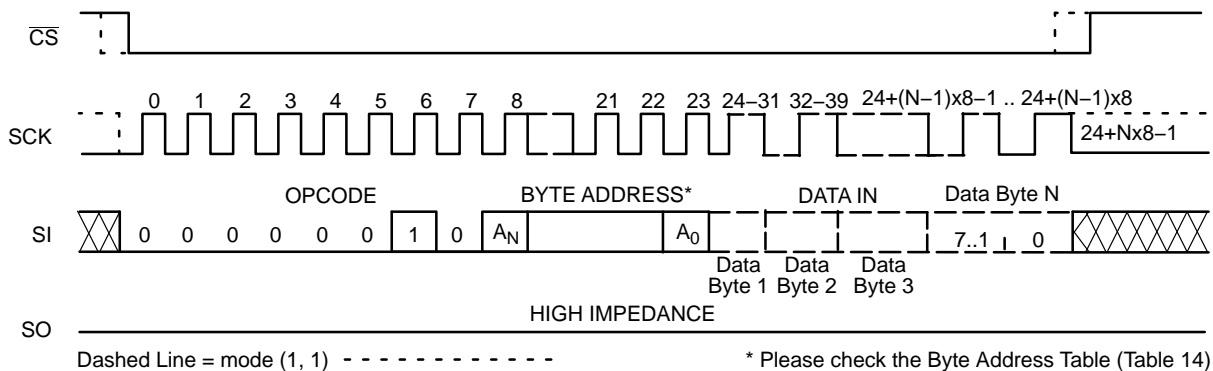

Figure 6. Page WRITE Timing
After sending the first data byte to the CAS25256, the host may continue sending data, up to a total of 64 bytes, according to timing shown in Figure 6. After each data byte, the lower order address bits are automatically incremented, while the higher order address bits (page address) remain unchanged. If during this process the end of page is exceeded, then loading will "roll over" to the first byte in the page, thus possibly overwriting previously loaded data. Following completion of the write cycle, the CAS25256 is
The additional 64-byte Identification Page (IP) can be written with user data using the same Write commands sequence as used for Page Write to the main memory array (Figure 6). **The IPL bit from the Status Register must be set (IPL = 1) using the WRSR instruction, before attempting to write to the IP.**